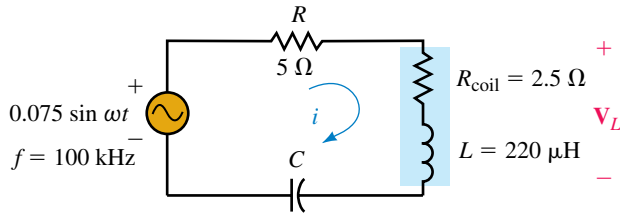

FIGURE 21-49
4. Refer to the circuit of Figure 21-49: